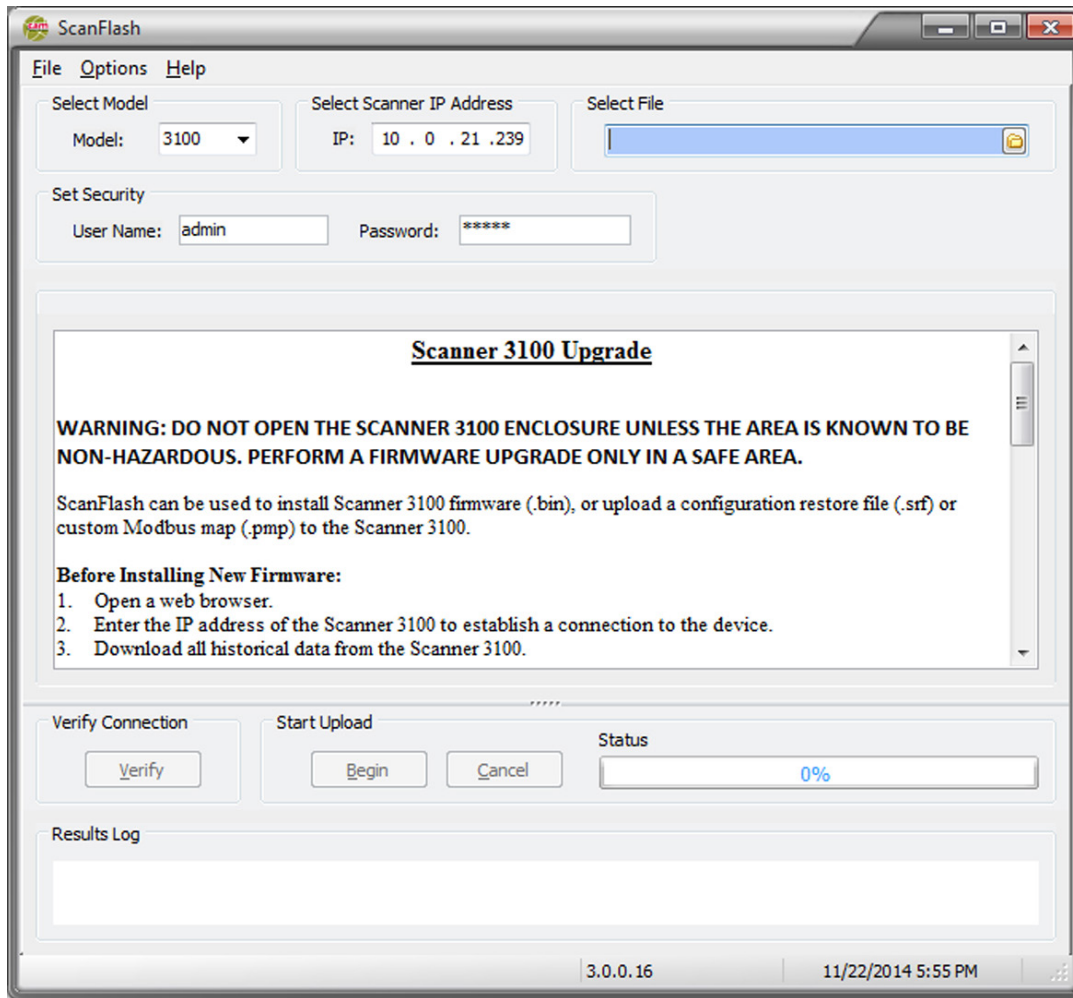

Figure 5.7—ScanFlash interface
3. Enter the IP address used to connect to the desired Scanner 3100 (Figure 5.7, page 28).